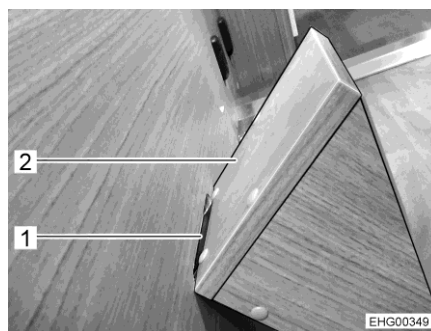
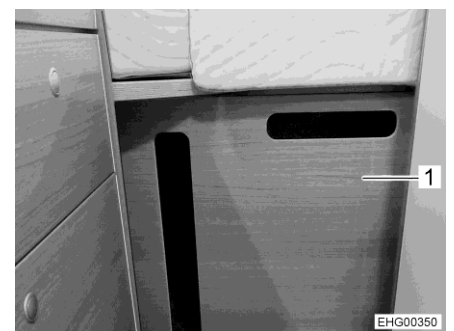

Fig. 40 Step unit
Fig. 41 Partition wall with step unit
- Attach the step unit (Fig. 40,2) to the bottom cut-out (Fig. 40,1) of the partition wall (Fig. 41,1).
- Insert the partition wall (Fig. 41,1) between the longitudinal rear beds. In order to do this, attach the partition wall in the second position (as seen from the kitchenette).